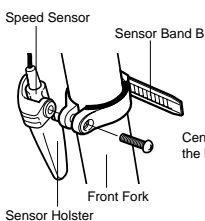

Fig. 17
2. Mount the adjusted bands to the fork along with the speed sensor and sensor holster, by temporarily tightening the screw (Fig. 17).